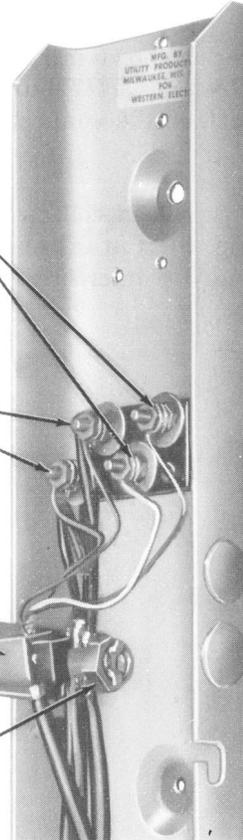

Fig. 8—Terminated Buried Wire and Buried Service Wire
- 5.05** Install the buried wire in the split-bolt connector with the exposed metallic shield portion contacting the split-bolt as shown in Fig. 8. Tighten nut securely.
- 5.07** Terminate the tip and ring conductors on the respective binding post of the connecting block. Terminate the spare pair of the service wire on the spare binding post (Fig. 8).